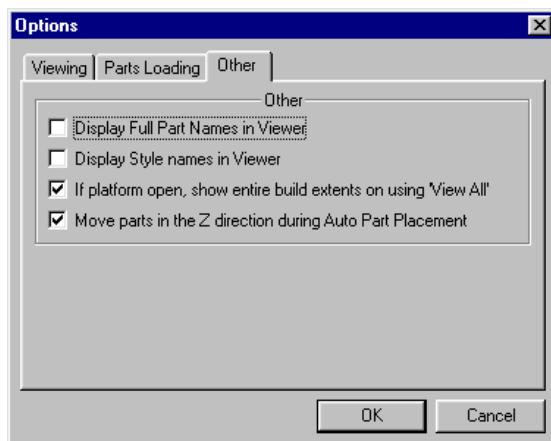

Figure 119. Options Dialog Box (Other tab)
4. "Uncheck" the box for "Move parts in the Z direction during Auto-Place" (Figure 119).